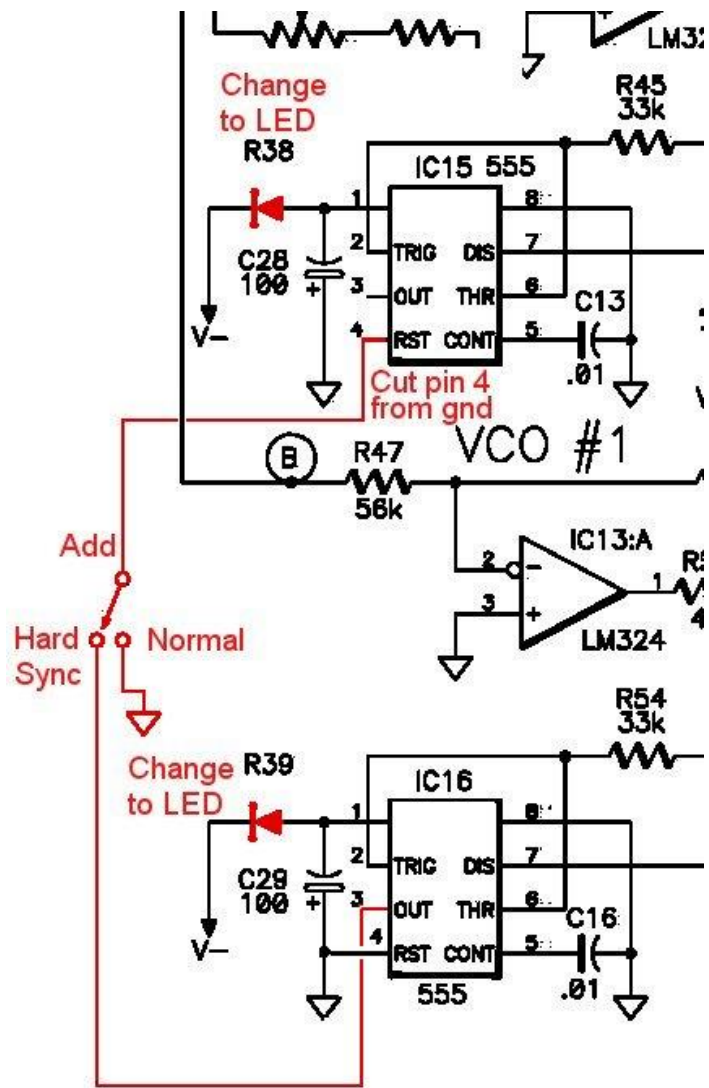

Figure 2.
3. Improve VCO Soft Sync: Replace R38 and R39 with LED (figure 2)
11. VCO1 Hard Sync: Disconnect pin 4 of VCO1 from ground. Wire pin 4 of VCO1 to center of SPDT switch. Wire one side to GND. Wire other side to pin 3 of VCO2 (figure 2).